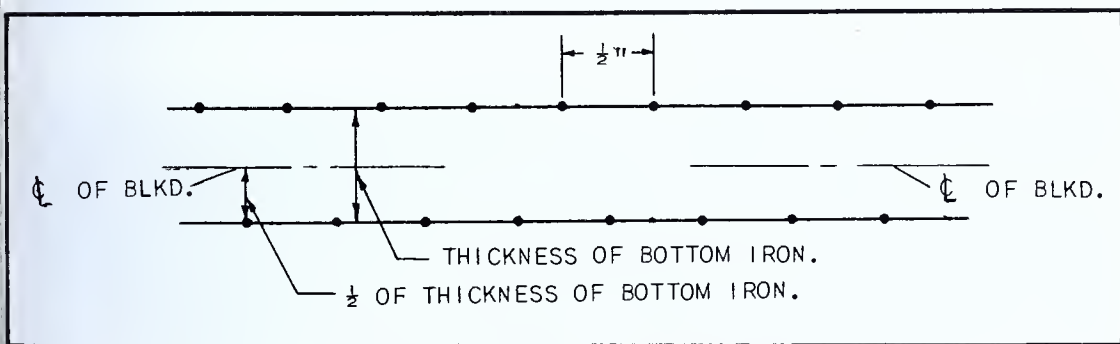

FIG. 66 — *Layout for Bottom Iron*
Divide the thickness of the bottom iron in half and lay off this distance on either side of the center line as shown in Fig. 66. Strike chalk lines to establish these lines.
6. Center punch the established bottom iron lines spacing the center punch marks approximately $\frac{1}{2}$ " apart. Center punch marks should also be staggered as shown in Fig. 66.